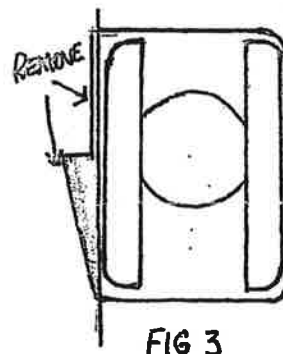

FIG 3
2. A portion of kit part #B8 needs to be removed. See figure 3.